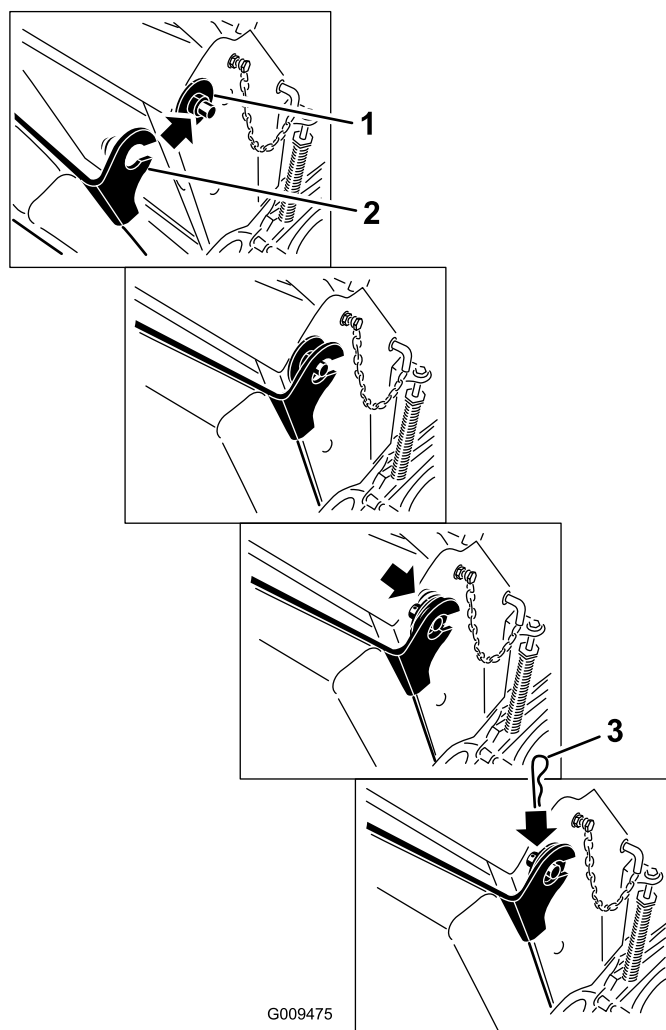

Figure 37
6. Raise the cushion and slide it onto the pins on both sides of the machine (Figure 37).
7. Slide the large washers plastic bushings into the cushion bracket and secure them with a hairpin cotter pin (Figure 37).